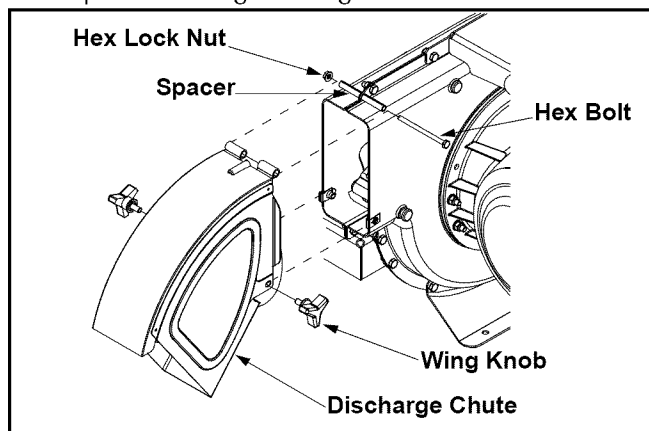

Figure 3
- Remove the wing knobs from each side of the lower impeller housing. See Figure 3.
- Align the discharge chute in position on the discharge opening and insert hex bolt with spacer through hinge on discharge chute (spacers fit inside of hinges). See Figure 3.